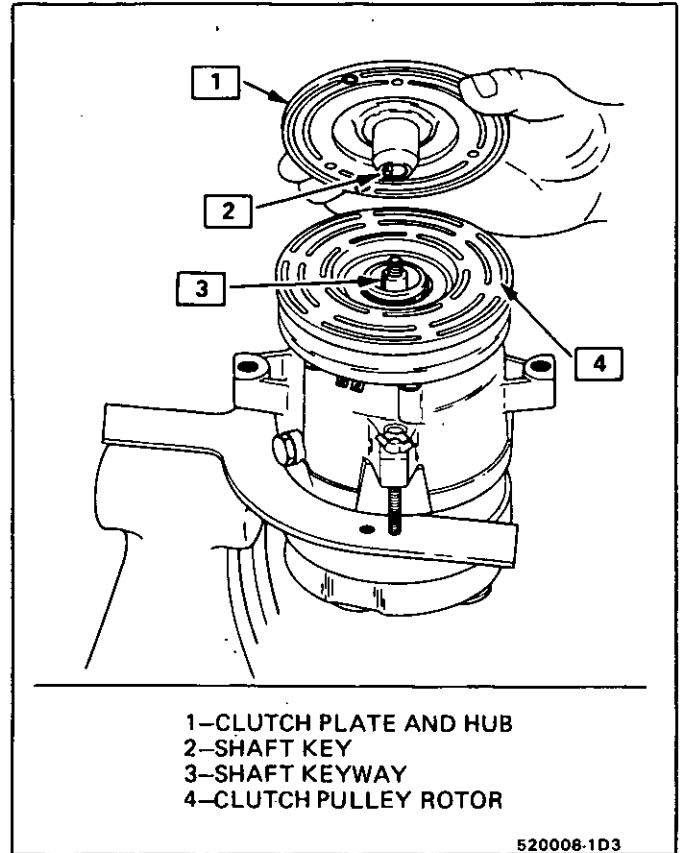

Fig. 8 Shaft Key, Clutch Plate/Hub Installation
1. Install the shaft key into the hub key groove (Fig. 8). Allow the key to project approximately 3.2mm (1/8") out of the keyway. The shaft key is
- If the center screw is threaded **fully** onto the end of the compressor shaft, or if the body of the installer is held and the center screw is rotated, the key will assume the position as shown in Fig. 8 and will break the clutch hub.